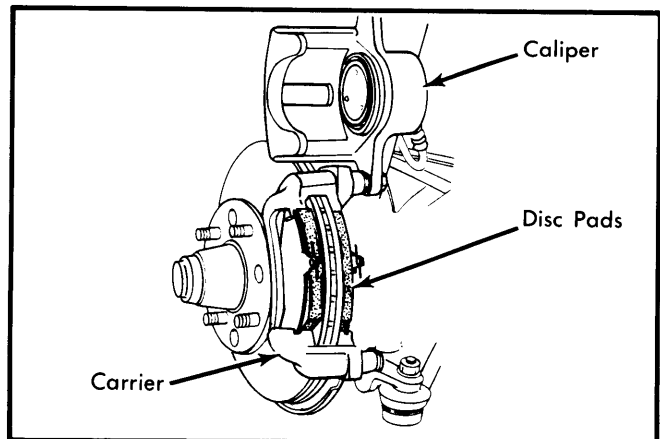

Fig. 6 Audi 4000 and Turbo Front Disc Pad Removal
2) Hold guide pin head with open end wrench while removing lower mounting bolt. Rotate caliper assembly upward. See Fig. 6. Remove disc pads from carrier.